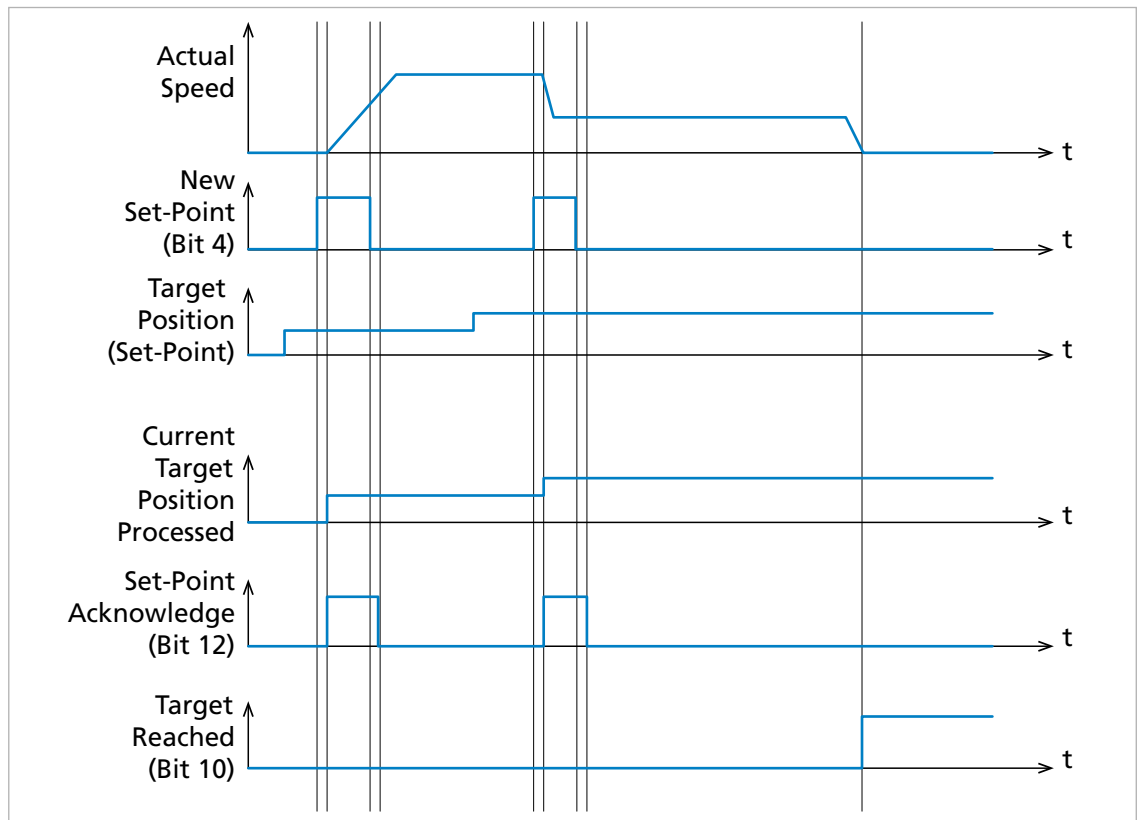

Fig. 28: Handshaking procedure for a succession of set-points, each set-point is loaded immediately
-  In the example shown (see Fig. 28), new instructions for the acceleration or the speed were communicated with the new set-point; this is evidenced by the change of the velocity profile (Actual Speed).